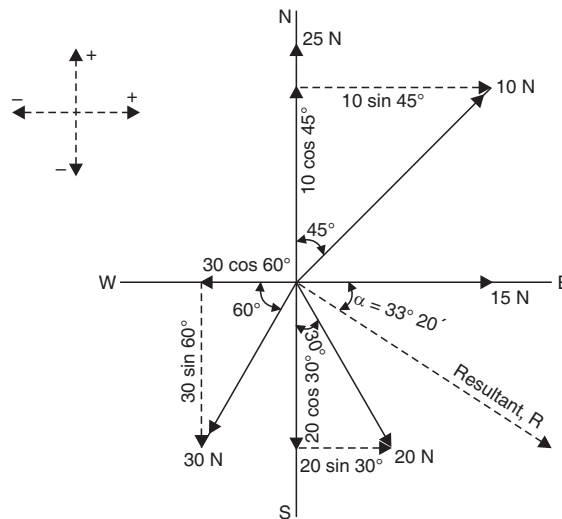

Fig. 2.25
**Sol.** The various forces acting at a point are shown in Fig. 2.25.